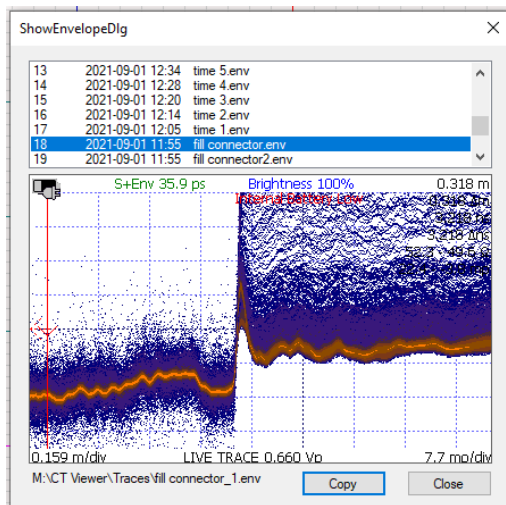

Figure 5.10 An envelope has been successfully copied to CT Viewer 2.
3. Click *Copy*. When the envelope plot has been copied to the default trace folder for CT Viewer 2, it will be displayed in the bottom part of the dialog box. See Figure 5.10.